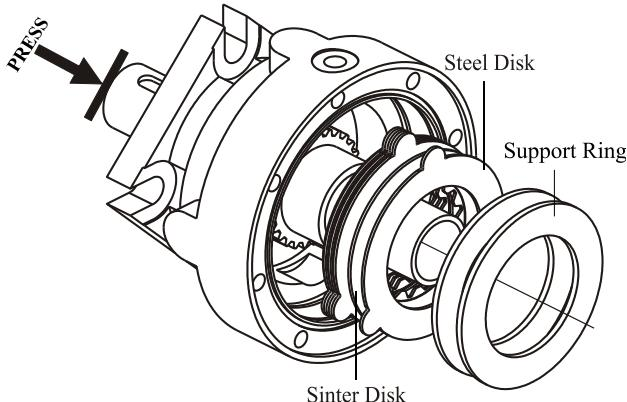

Fig.4
9. Remove from housing whole assembly contained shaft, inner rims of front ant rear bearings, steel disks, sinter disks and support rings (see Fig.4). Separate the rims from shaft. Check the friction elements for defects (availability of wearing marks and checking the weight) and replace with new ones.